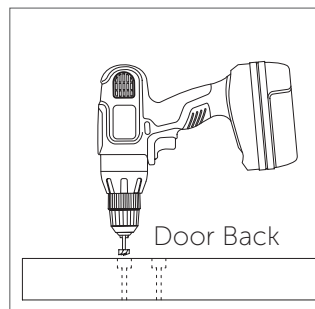

Figure 4
7. Turn the door over and using a 1-1/8" Forstner bit\*, drill a 3/8" deep hole into each pilot hole (Figure 4).
5. Loosely secure one end of the track to the wall with one lag screw, one spacer and one washer, using a socket wrench with 9/16" socket. Attach the Adjustable Stop to the Bottom of the track (Figure 4).